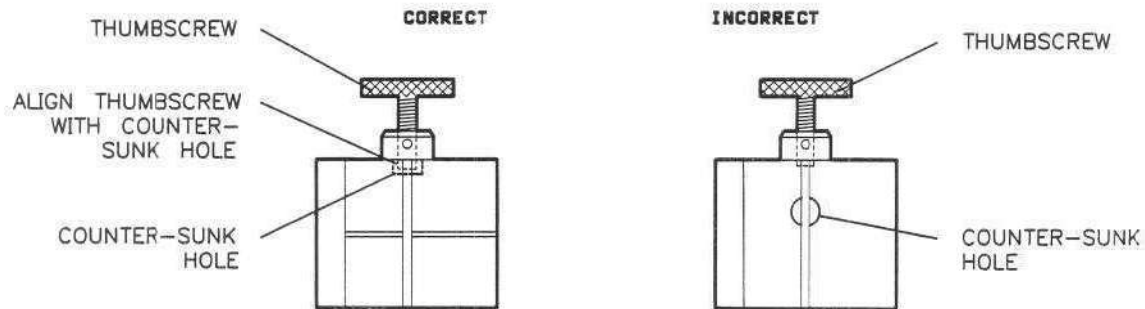

Figure 3-7. Aligning the Thumbscrew With the Counter-bored Hole
- See Figure 3-7. Make sure that the thumbscrew is aligned with the counter-sunk hole in the clamp body. Push the clamp toward the test set front panel and then tighten the thumbscrew with your fingers. The cable cannot be damaged by tightening the thumbscrew too tightly.